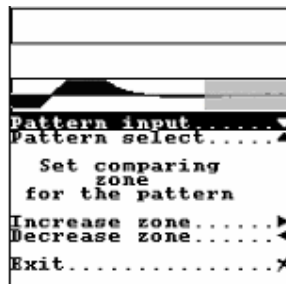

Fig. 68
7. In this submode the transducer should be moved along the flawless surface. The signal oscillogram from every hit on the flawless surface is displayed in the lower rectangle (Fig. 68). As far as the tested object characteristics don't vary, the signal oscillogram doesn't change from hit to hit.
9. Using the Left and Right keys, set the required oscillogram analysis zone (Fig. 68). The left (start) oscillogram side is the most informative one, that's why DAMI-S provides the possibility of width selection of the analysis zone. The analysis zone is used to compare and analyze the differences between the signals from the flawless zone and from the tested object, both received as a result of the hits on their surfaces. The light gray band in the right side of the lower rectangle marks the uninformative oscillogram site.